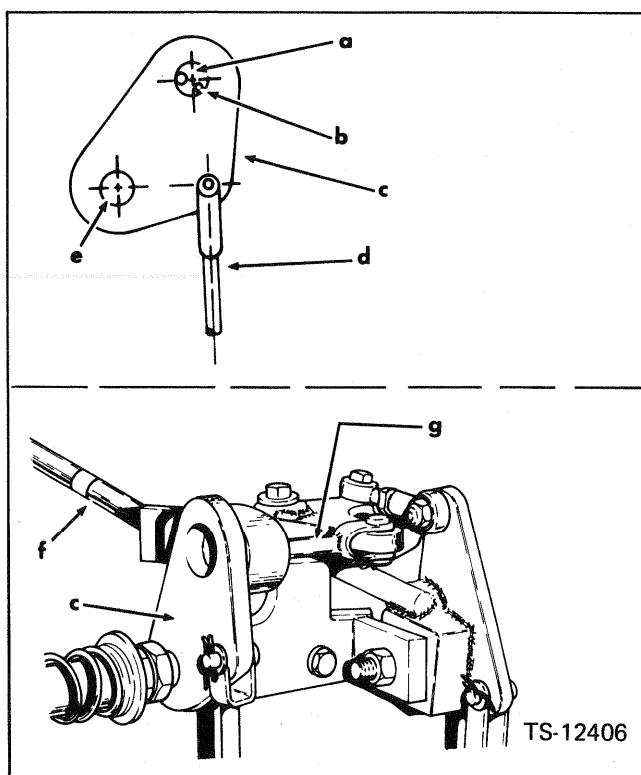

Fig. 9-5, Fourth Gear Lock-out Adjustment
4. Adjust the bell crank of the high low lever so that the clevis rod pin is at the back of the bell crank hole. (Fig. 9-5)